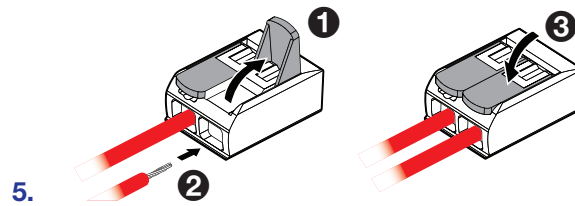

Figure 11. 2-pole Splicing Connector
3. Lift the splicing connector lever (see **figure 11**, **1** on page 10) and insert the stripped end of the red wire into the empty pole of the connector (**2**) that is attached to the red wire coming from the speaker. Press the lever down to lock the red wire in place (**3**)